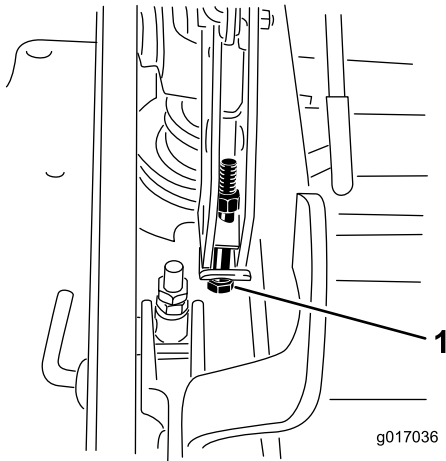

**Figure 95**
12. To adjust the single point system, loosen the two bolts at the bottom of the height-of-cut plate. Refer to Figure 95.
14. Tighten the 2 bolts at the bottom of the height-of-cut plate (Figure 95). Torque them to 37 to 45 N·m (27 to 33 ft·lb).